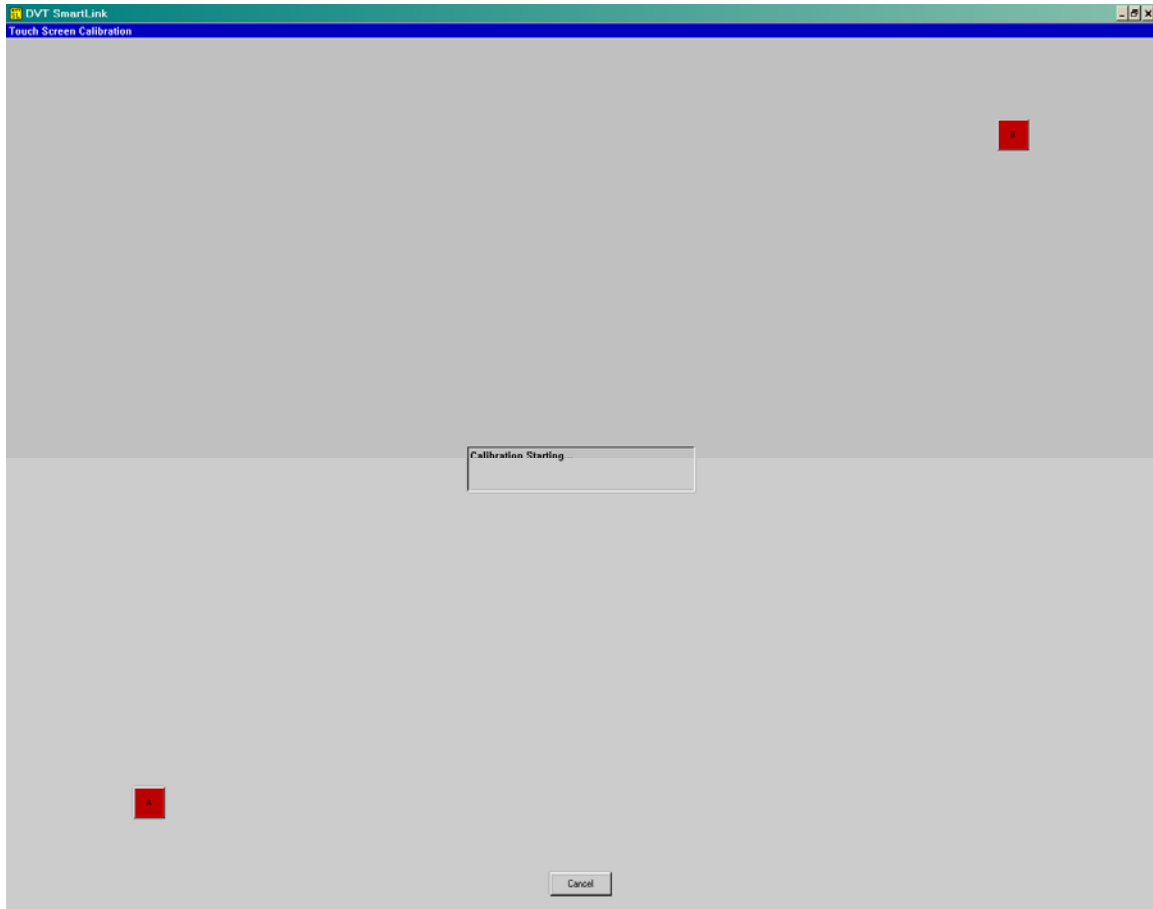

Figure 91: Touch screen calibration window. Contains two calibration targets, a message box, and a cancel button.
Touch screen calibration starts by showing a target window, Figure 91. This window consists of two colored targets, A and B; a message box; and a cancel button. The message box will provide feedback to the user about the progress of the calibration process.
- Once the dialog in Figure 91 appears wait for the startup procedure to finish. This will be indicated by a message of Press Button A appearing in the message box.